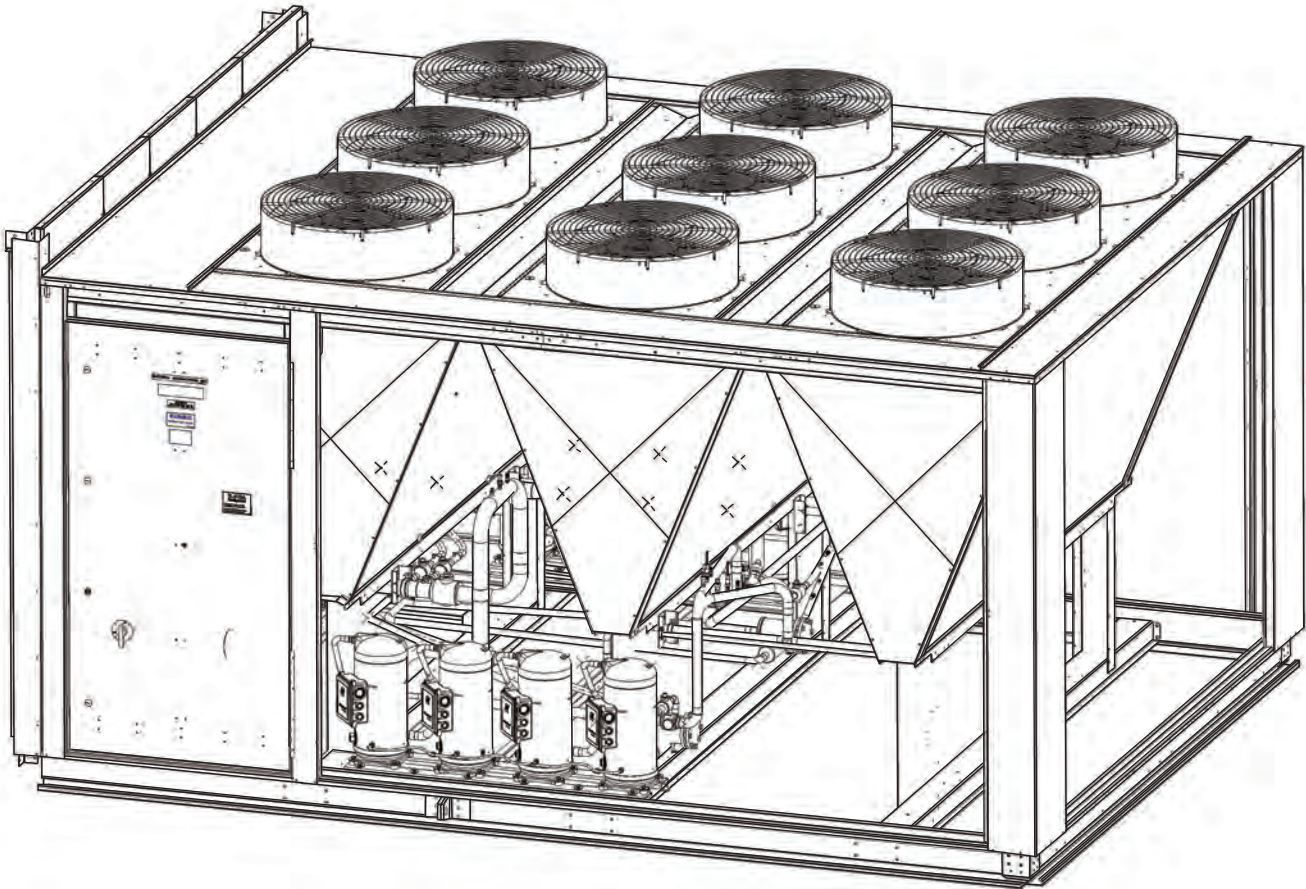

Fig. 15 — 48/50N Units Compressor Access
2. Access compressor from both sides of unit. See Fig. 15.